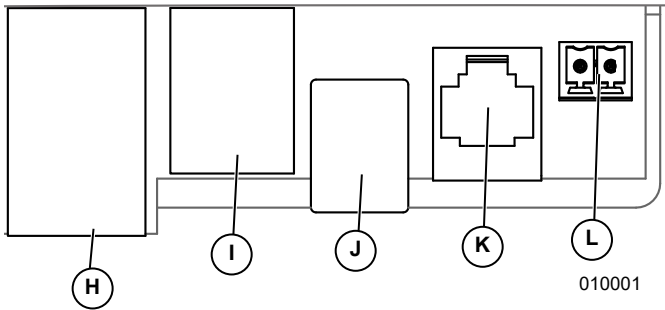

Figure 5-8. Accessory Ports
- See **Figure 5-8**. Connect CTs to the inverter using a RJ-45 connector and Category 5 (Cat 5) Ethernet cable.
- CT input jack (H) is a double-stacked RJ-45 jack. Either the top or bottom jack may be used.